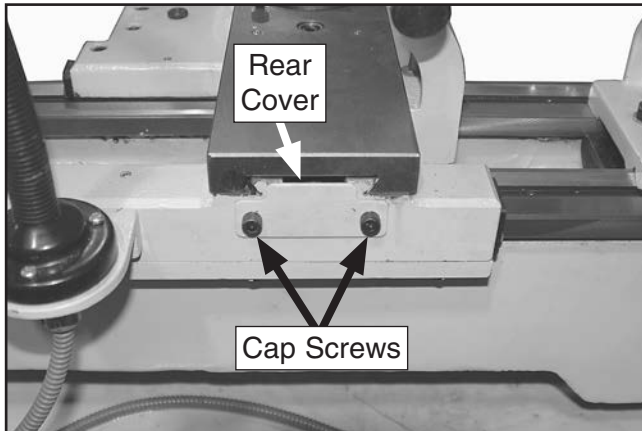

Figure 4. Cross slide rear cover location.
4. Remove the cross slide rear cover by removing the (2) cap screws shown in **Figure 4**.